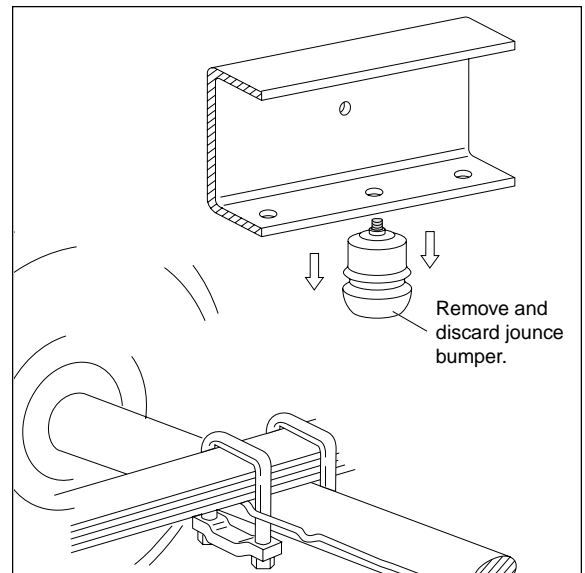

Figure 4
1. Remove the jounce bumper (Figure 4). The bellows will mount in place of the jounce bumper.